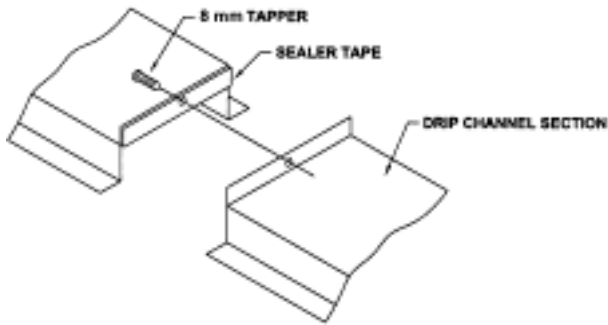

Figure 7 - Drip Channel Assembly
9. Remove the 6 mm bolts which hold the drip channel retaining clips to the end panel. Remove the drip channel sections and fasten them together, end to end, by driving a self-tapping 8 mm screw through the section end with the larger hole into the mating end with the smaller hole. Stainless steel units will use 8 mm stainless steel nuts, bolts and washers. (See Figure 7).